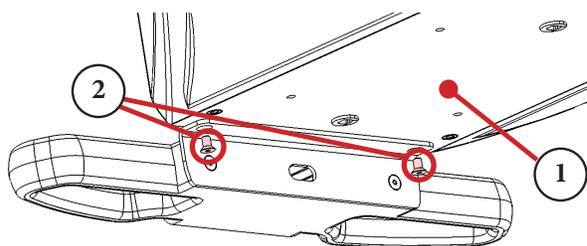

Figure 8.13 - Handle to FLEXiS Bracket
1. Remove the handle to chassis bracket from the packaging. The handle with bracket should include the parts seen in Figure 8.13.
2. Position the handle and bracket under the FLEXiS System (Figure 8.13, Item 1) chassis in the desired location.